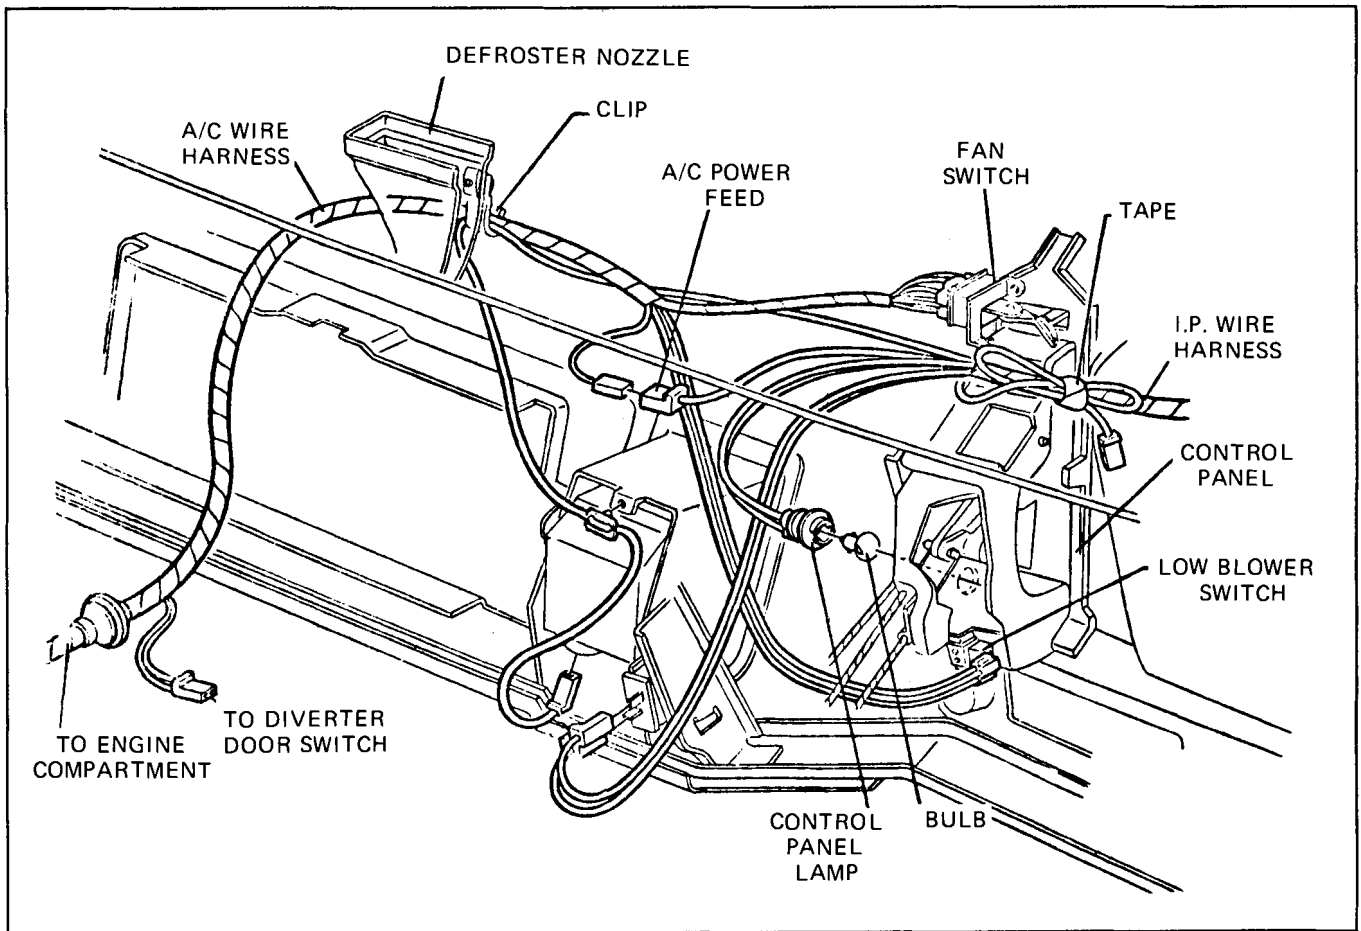

Fig. 1A-138 X Series A/C In-Car Wiring
3. Remove harness from clips and disconnect harness from blower motor, blower resistor, ambient switch, high blower relay and compressor wire harness. Remove harness (Figs. 1A-139 and 1A-140).
3. Disconnect harness from in-car wire harness (Fig. 1A-137).
5. Disconnect harness connections at blower motor, blower resistor, ambient switch, high blower relay and compressor wire harness (Fig. 1A-141).
2. Disconnect harness at ambient switch and feed wire harness through radiator support (Fig. 1A-143).